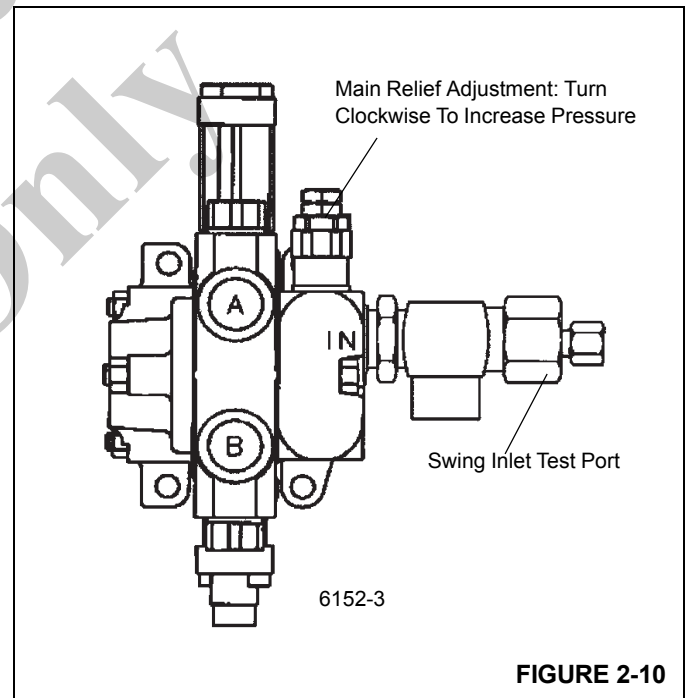

FIGURE 2-10
1. Remove cap and install pressure gauge on swing inlet test port per Figure 2-10. Locate needle valve plumbed between work ports A and B. Loosen locking nut and rotate knob clockwise until it bottoms out, and retighten locking nut.